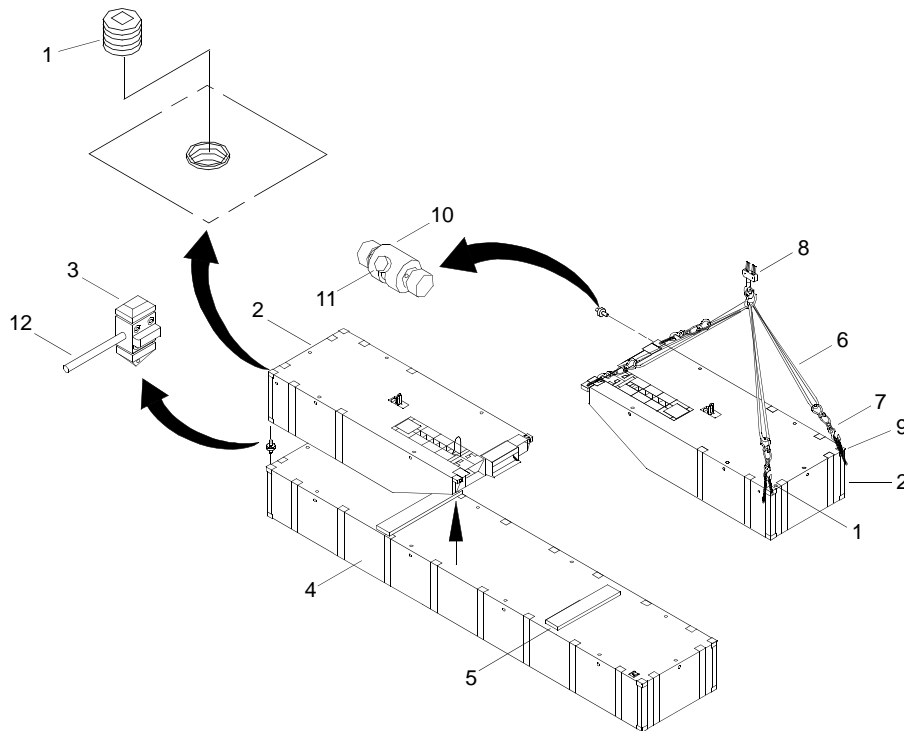

Figure 2. Module ISOPAK Assembly
6. Verify drain plugs (figure 2, item 1) on end rake modules (figure 2, item 2) are installed and tight.
7. Place four vertical twistlocks (figure 2, item 3) in corners of center module (figure 2, item 4).
8. Place wood planks (figure 2, item 5) on top of center module (figure 2, item 4).
9. Attach four 8,400 lb slings (figure 2, item 6) and 36,000 lb adjustable chain slings (figure 2, item 7) from crane (figure 2, item 8) to corners (figure 2, item 9) on end rake module (figure 2, item 2).
10. Using slings (figure 2, items 6 and 7) and crane (figure 2, item 8), lift end rake module (figure 2, item 2) and place on top of center module (figure 2, item 4).
11. Remove 36,000 lb adjustable chain slings (figure 2, item 7) from corners (figure 2, item 9) on end rake module (figure 2, item 2).
12. Repeat step 9 through step 11 for second end rake module (figure 2, item 2).
13. Remove 8,400 lb slings (figure 2, item 6) from crane (figure 2, item 8).
14. Install two horizontal twistlocks (figure 2, item 10) or bridgelocks between end rake modules (figure 2, item 2). Tighten horizontal twistlocks (figure 2, item 10) by rotating levers (figure 2, item 11).
15. Lock four vertical twistlocks (figure 2, item 3) by rotating levers (figure 2, item 12).